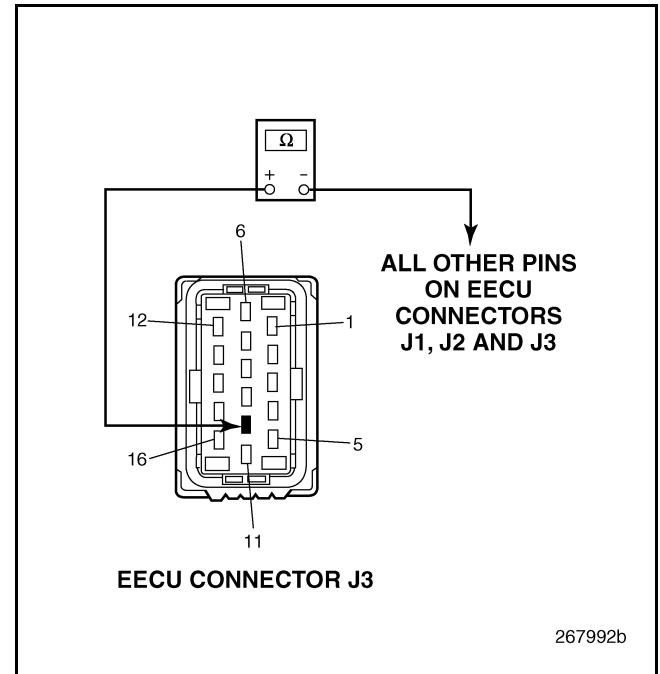

Figure 761
4. Check for continuity between EECU harness connector J3 pin 10 and all other pins on EECU connectors J1, J2 and J3 (see Figure 761).